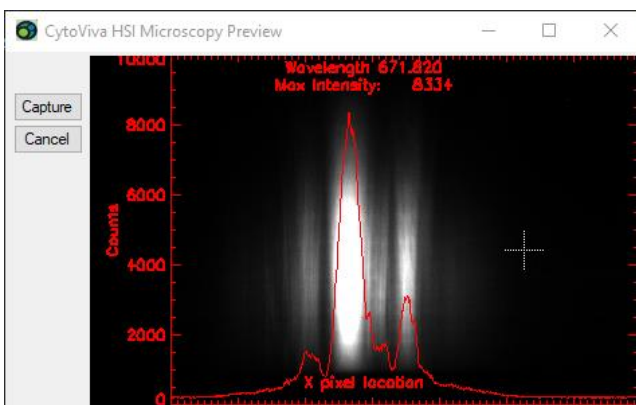
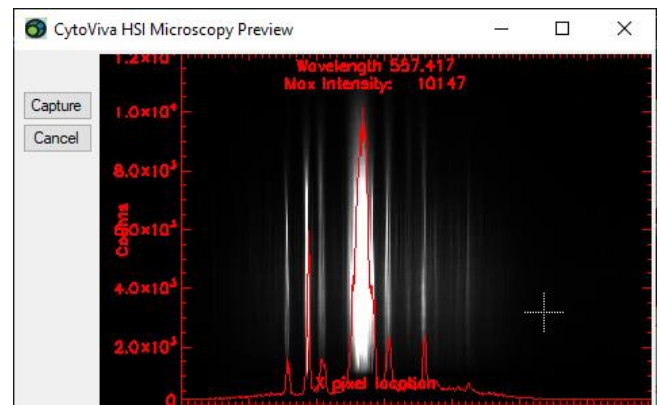

Figure 2.2a. Frame out of focus
Figure 2.2b. Frame in focus
- Focus: Typically if the objects are in focus in the eyepiece of the microscope then they are in focus to the HSI camera. Often the thickness of the specimen makes it difficult to properly adjust for best focus. This can be done more easily with the Preview image. When focused correctly, the spectra become sharp (Figure 2.2a). You can adjust this focus by using the fine focus knob to obtain the minimum width of the spectra. If the focus is poor, the width of the spectra lines increases (Figure 2.2b). Focusing with the Preview window insures that the HSI scanned image will be sharp.